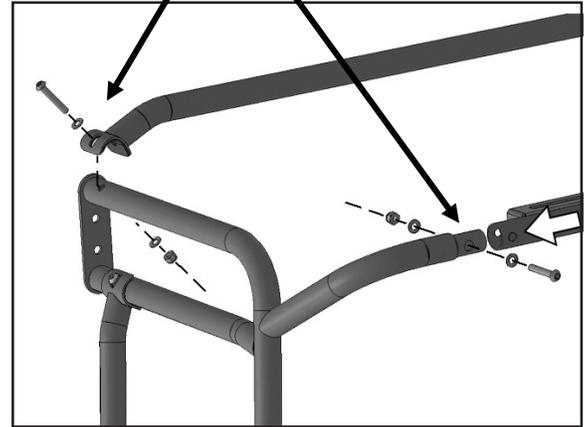

FIGURE 15
14. Attach the Rear Crossbar Tube to the driver/left and passenger/right Rear Corner Assemblies with (2) 8mm x 50mm Button Head Bolts, (4) 8mm x 16mm Small Flat Washers and (2) 8mm Nylon Lock Nuts, **(FIGURE 21)**. Attach (1) load Crossbar to the mounting holes in the top of the Corner Assemblies with (2) 8mm x 50mm Button Head Bolts, (4) 8mm x 16mm Small Flat Washers and (2) 8mm Nylon Lock Nuts, **(FIGURE 15)**.